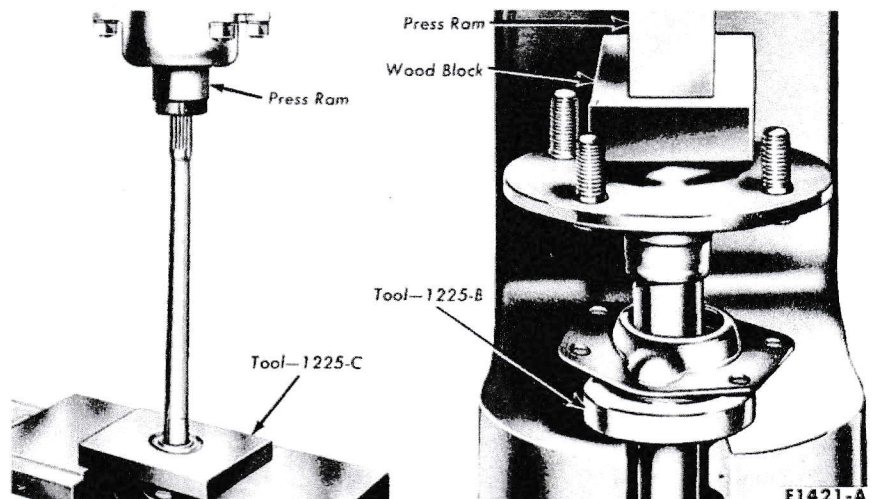
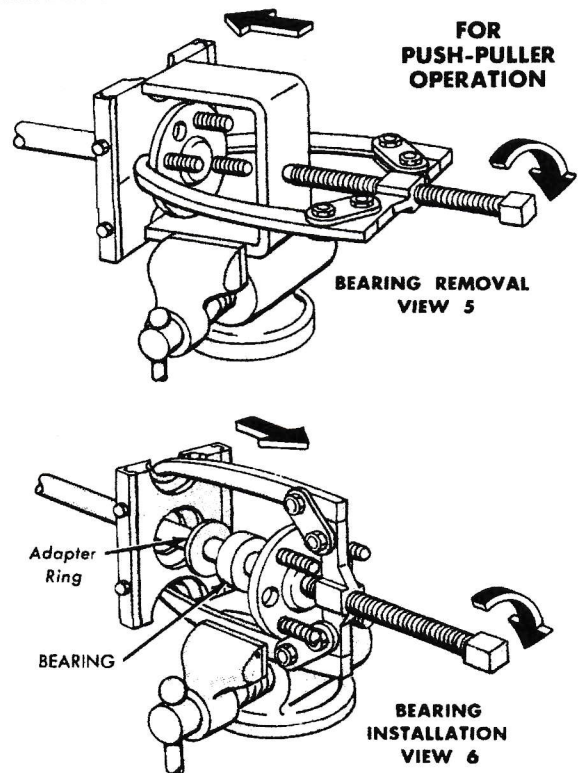

FIG. 7—Removing and Installing Rear Wheel Bearing—Comet
FIG. 8—Removing and Installing Rear Wheel Bearing—Falcon, Mustang and Fairlane
5. Remove the bearing from the axle shaft with the tool shown in Fig. 7 or 8. If the push-puller operation shown in Fig. 8 is used, be sure that the puller arms contact the flat surface of the axle shaft flange rather than the bolt heads. Also with this method, be careful not to damage or burr the oil seal journal as the bearing breaks loose.
9. Place the retainer plate on the axle shaft, and press the new wheel bearing on the shaft with the tool shown in Fig. 7 or 8. The bearing should seat firmly against the shaft shoulder. Do not attempt to press on both the bearing and the inner retainer ring at the same time.